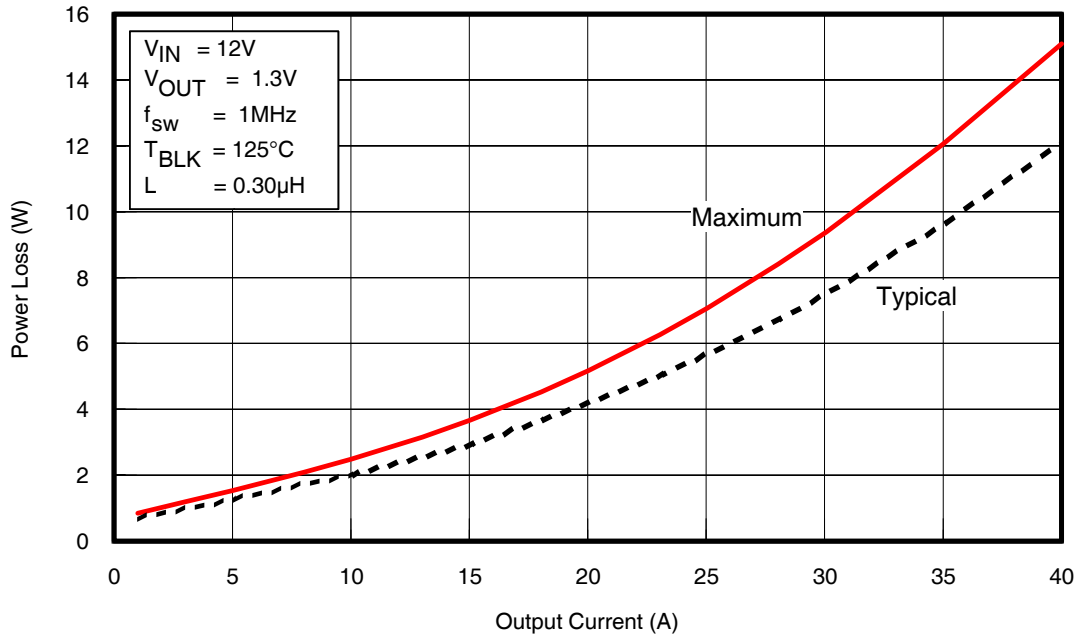
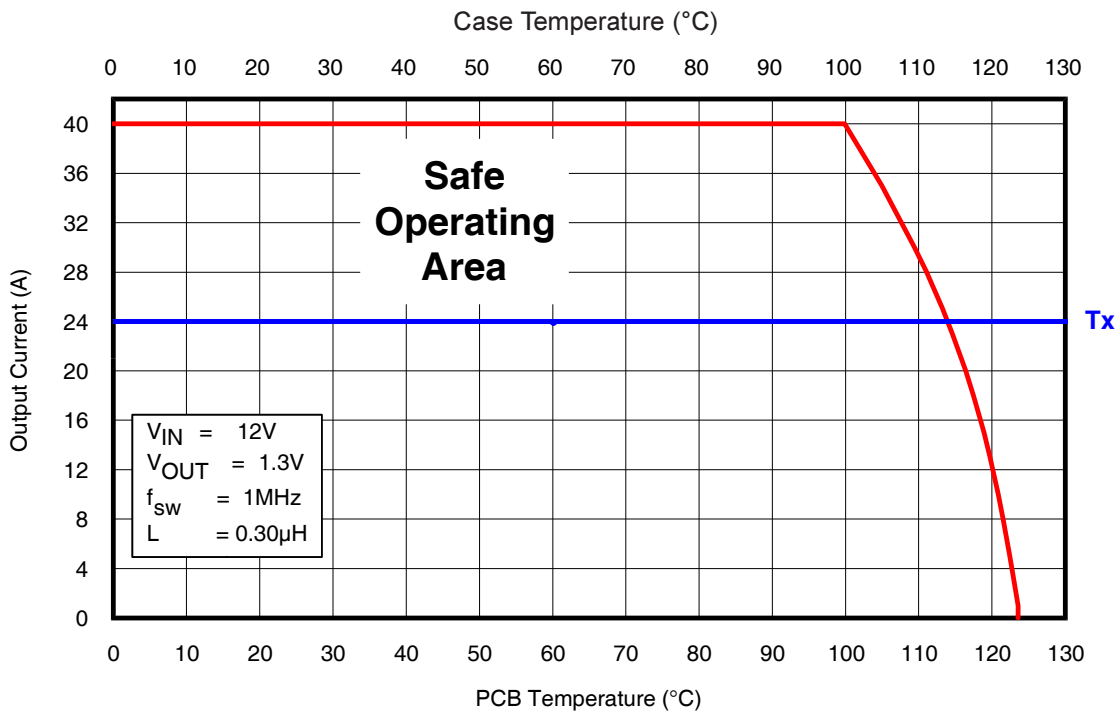
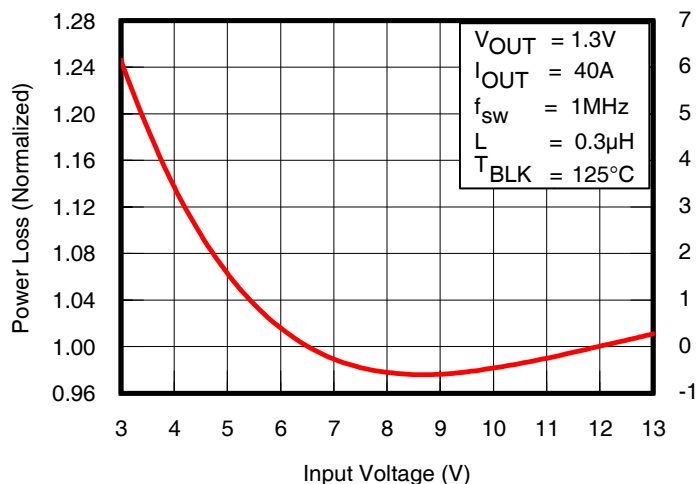

Fig. 1: Power Loss vs. Current
Fig. 2: Safe Operating Area (SOA) vs. T_{PCB} & T_{CASE}
Fig. 3: Normalized Power Loss vs. V_{IN}
To calculate power loss for a given set of operating conditions, the following procedure should be followed: Determine the maximum current for each iP2003A and obtain the maximum power loss from Fig 1. Use the curves in Figs. 3, 4, 5 and 6 to obtain normalized power loss values that match the operating conditions in the application. The maximum power loss under the operating conditions is then the product of the power loss from Fig. 1 and the normalized values.
To calculate the SOA for a given set of operating conditions, the following procedure should be followed: Determine the maximum PCB temperature and Case temperature at the maximum operating current of each iP2003A. Obtain the SOA temperature adjustments that match the operating conditions in the application from Figs. 3, 4, 5 and 6. Then, add the sum of the SOA temperature adjustments to the T_x axis intercept in Fig 2.
- (Fig. 1) Maximum power loss = 15W
- (Fig. 3) Normalized power loss for input voltage ≈ 0.98
- (Fig. 3) SOA Temperature Adjustment for input voltage $\approx -0.5^{\circ}\text{C}$